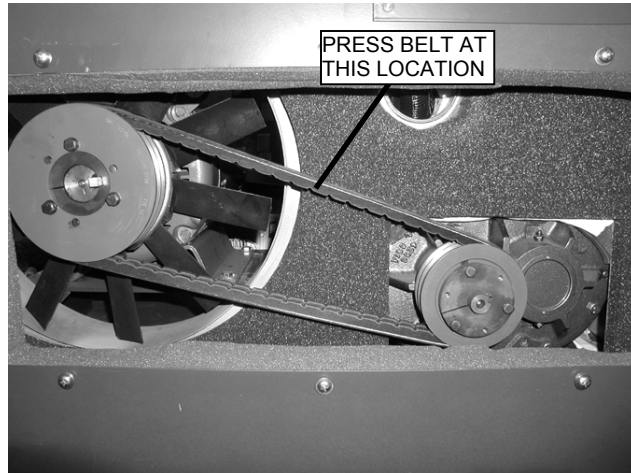

Figure 2. Blower Drive Belt Adjustment.
- d. Check the belt tension by pressing one of the belts at the mid-point and measuring the force required to deflect the belt 0.30 inches. The force required should be 9-12 pounds for a used belt and 12-15 pounds for a new belt. Refer to Figure 2.